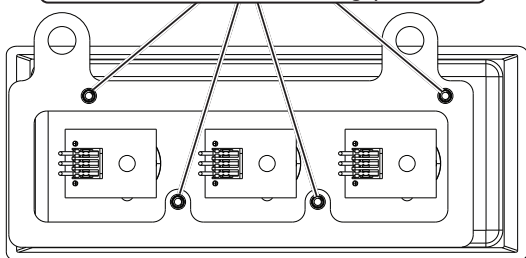

Figure 1
2. Install the control assembly front plate and bezel. The front plate studs will pass through the factory heater control holes and into the backing plate. Feed the control wiring through the factory heater controls holes. Ensure the backing plate and front plate are orientated as shown in Figures 1 and 2, below. Secure it using (4) 4-40 nuts. **NOTE: The 4-40 nuts are easier to fasten before the evaporator module is installed.**